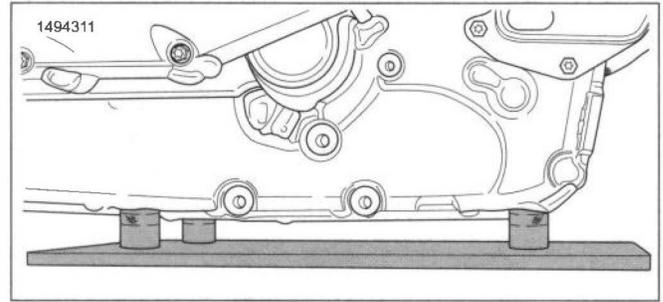

Figure 4-80. Engine Support Plate
43. See Figure 4-80. Install support plate to bottom of engine using the correct engine plate spacers.